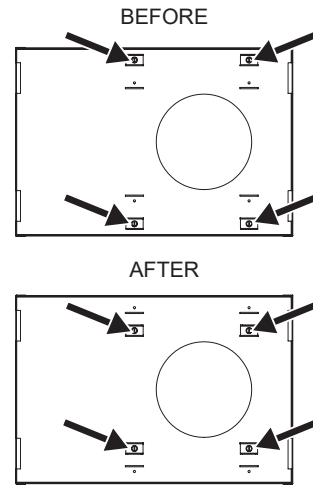

Figure 10. Bracket Relocation
- Turn the Power Vent upside down. Using a 5/16" nut driver, relocate the mounting brackets as shown in Figure 10.